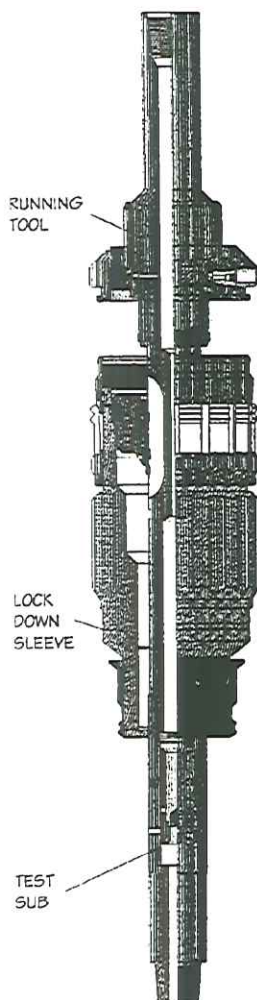
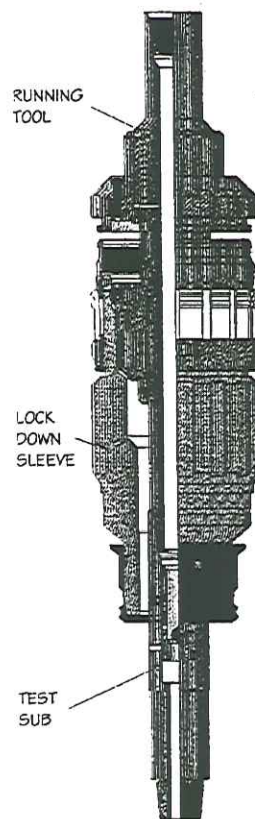

Figure 10. Lockdown Sleeve running joint, Running Tool with moveable landing ring (can protector not shown)
Figure 9. Lockdown Sleeve running joint, Running Tool with fixed landing ring (can protector not shown)
7. Refer to **Figure 9** and **Figure 10**. Stand the Running Tool assembly/ Lockdown Sleeve back in the derrick.